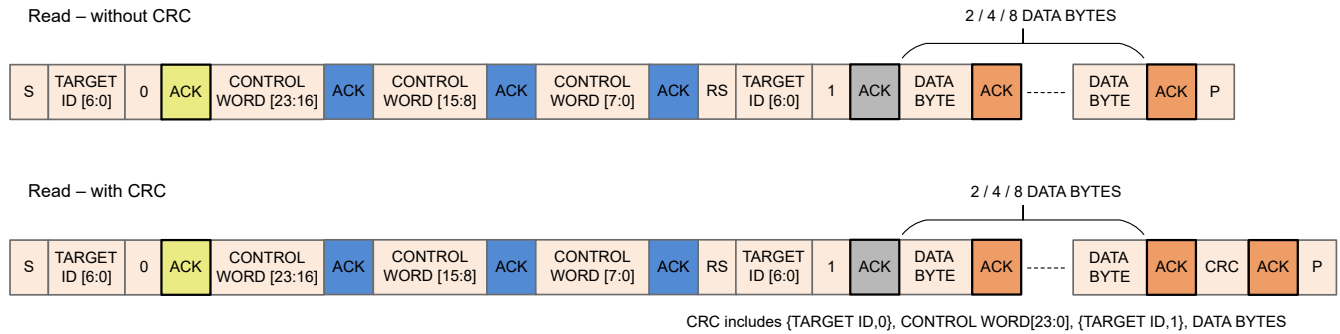

图 7-55. I²C Read Transaction Sequence
MCT8315A read transaction over I²C involves the following sequence (see 图 7-55).
- When target ID is a match, I²C peripheral in MCT8315A raises a start interrupt request. Until this start interrupt request is processed, clock is stretched. Upon processing this request, clock is released and an ACK (marked in yellow or grey in 图 7-54 and 图 7-55) is sent to the controller for continuing with the transaction.
- Receive interrupt pending:** When a receive interrupt is waiting to be processed and the receive register is full which occurs when two successive bytes (data or control) have been received by MCT8315A (separated by one ACK shown as blue boxes in 图 7-54 and 图 7-55) without the receive interrupt generated by the first byte being processed. Upon receive of second byte, clock is stretched until receive interrupt generated by the first byte is processed.